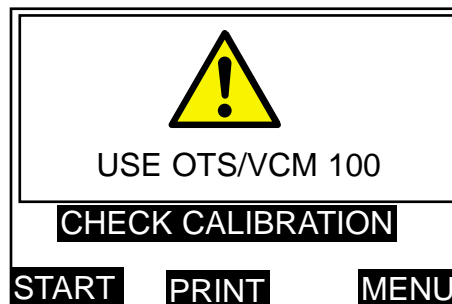

Figure 24. Calibration check screen display.
2. From the main menu select CHECK CALIBRATION. The display will appear similar to figure 24.